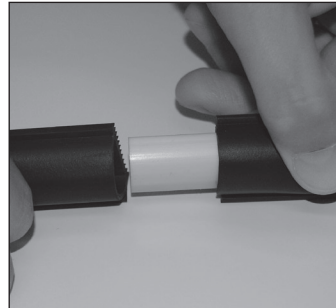
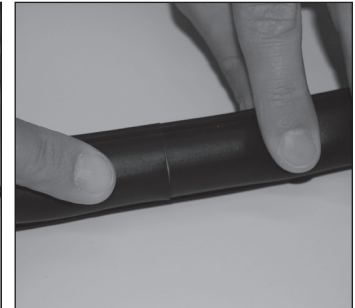

Figure 6
Figure 6a
- b. Install the plastic connector supplied with the Water Dam into both ends of the Water Dam so that no gap exists between the ends. **Figure 6 and Figure 6a**